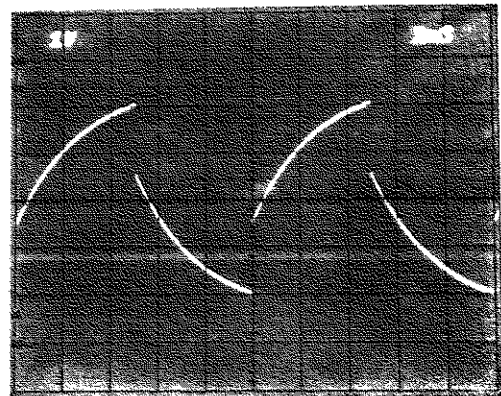

FIGURE 5-3. TYPICAL LOUDNESS TEST OUTPUT
3. Observe typical output square wave (Figure 5-3) on oscilloscope.